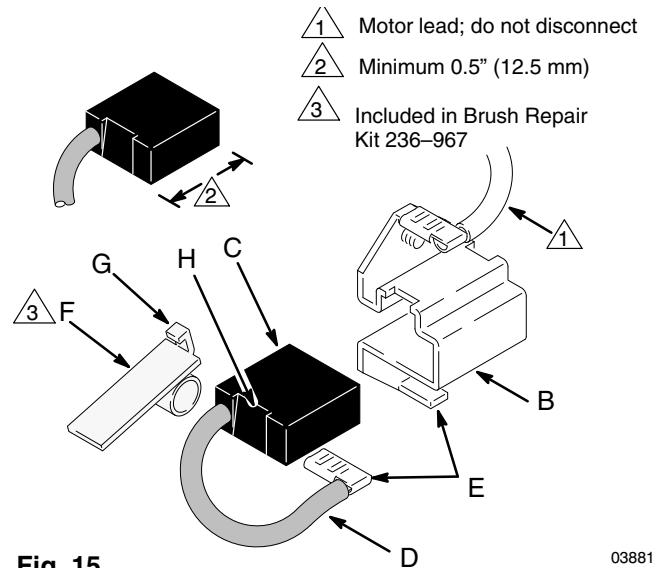

Fig. 15
2. Push in the spring clip (F) and release its hook (G) from the brush holder (B). Pull out the spring clip. See Fig 15.
3. Slide off the brush lead terminal (E) off the blade connector. Remove the old brush (C). See Fig 15.